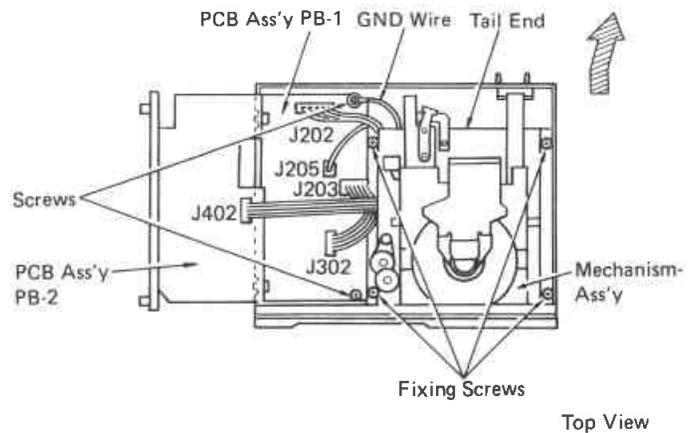

Fig. 4
- 3) Remove two screws, fixing PCB PB-1 to the chassis. (Fig. 4)
- 5) Remove four screws fixing mechanism ass'y from the chassis. (Fig. 4)